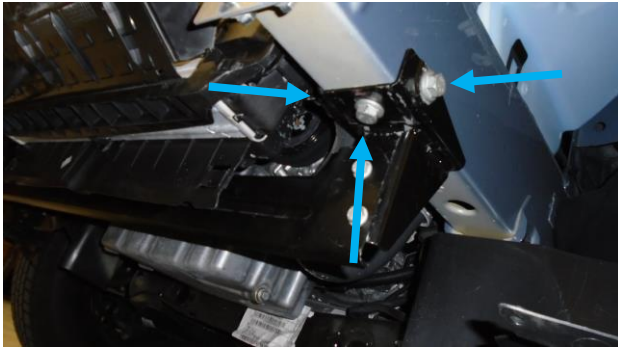

Figure 17: Engine Crossmember Bracket Factory Bolts (Driver Side Shown)
18. Remove the three (3) bolts holding on each of the black steel crossmember underneath the radiator. (see Figure 17).